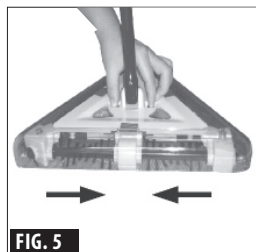

FIG. 5
- With the Triangle-Sweeper "Base" sitting on the floor or either flat surface such as a countertop, squeeze and hold the "Dirt Tray Lock Clips" with one hand and lift the sweeper up by its aluminum pole with the other hand, to release the "Dirty Tray" (see FIG. 5).